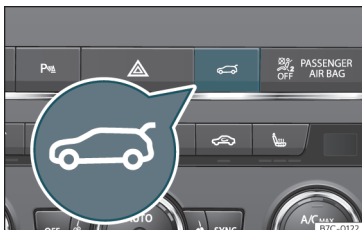

Fig. 79 Centre console: button to open and close the rear lid.
- **OR:** press the button on the centre console for at least one second >>> Fig. 79. The button also works when the ignition is switched off.
- **OR:** press the  button located on the centre console until the rear lid is closed >>> Fig. 79.